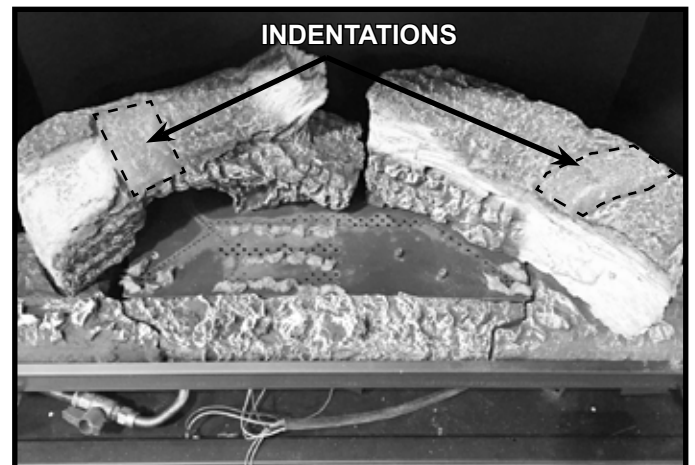
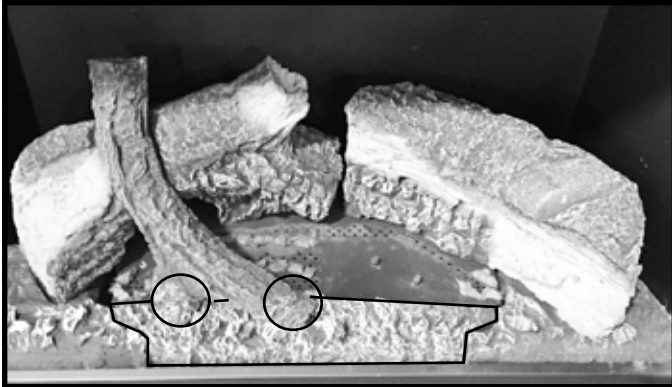
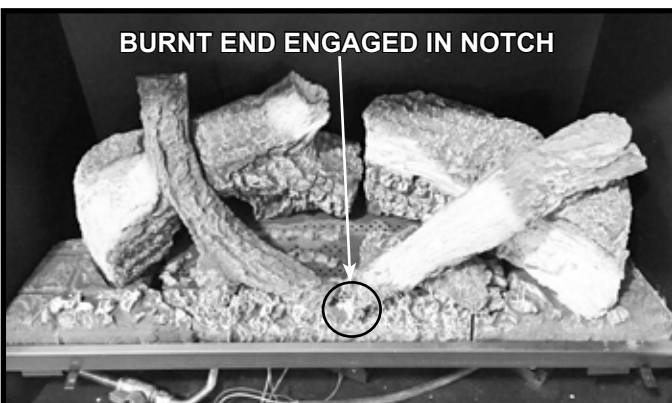

Figure 6. Glowing Embers® Installed
Figure 7. Install Top Left Log
Figure 9. Top Right Log Installed - Log Set Complete
- Top left and top right logs, which lay across the rear left and rear right logs, utilize the “indentations” in the rear left and rear right logs for proper placement. See Figure 6.
- Remove top left log from packaging. Place the log into the indentation on the left rear log. The indentation is highlighted in Figure 6. The bottom two points of the log will rest on the center hearth component. See Figure 7.
- Remove right top log from packaging. There is an indentation located in the right rear log which “cradles” the right top log. The indentation is highlighted in Figure 6. The burnt end of the log will engage a notch in the middle hearth component. See Figure 9.